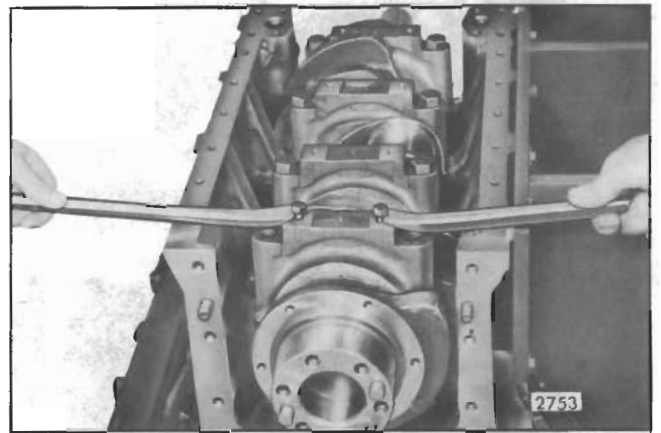

Fig. 2 - Removing Main Bearing Cap
4. Remove one main bearing cap at a time (Fig. 2) and inspect the bearing shells as outlined under *Inspection*. Reinstall each bearing shell and bearing cap before removing another bearing cap: